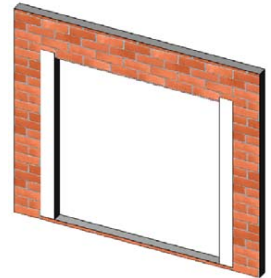

Figure 14:
2. At each jamb, embed the flashing paper into the sealant onto mounting flange and fasten into place. The flashing paper should be cut sufficiently long enough to extend at least 3 in. past the weep-screed flashing and at least 6 inches above the head of the product (Figure 14).